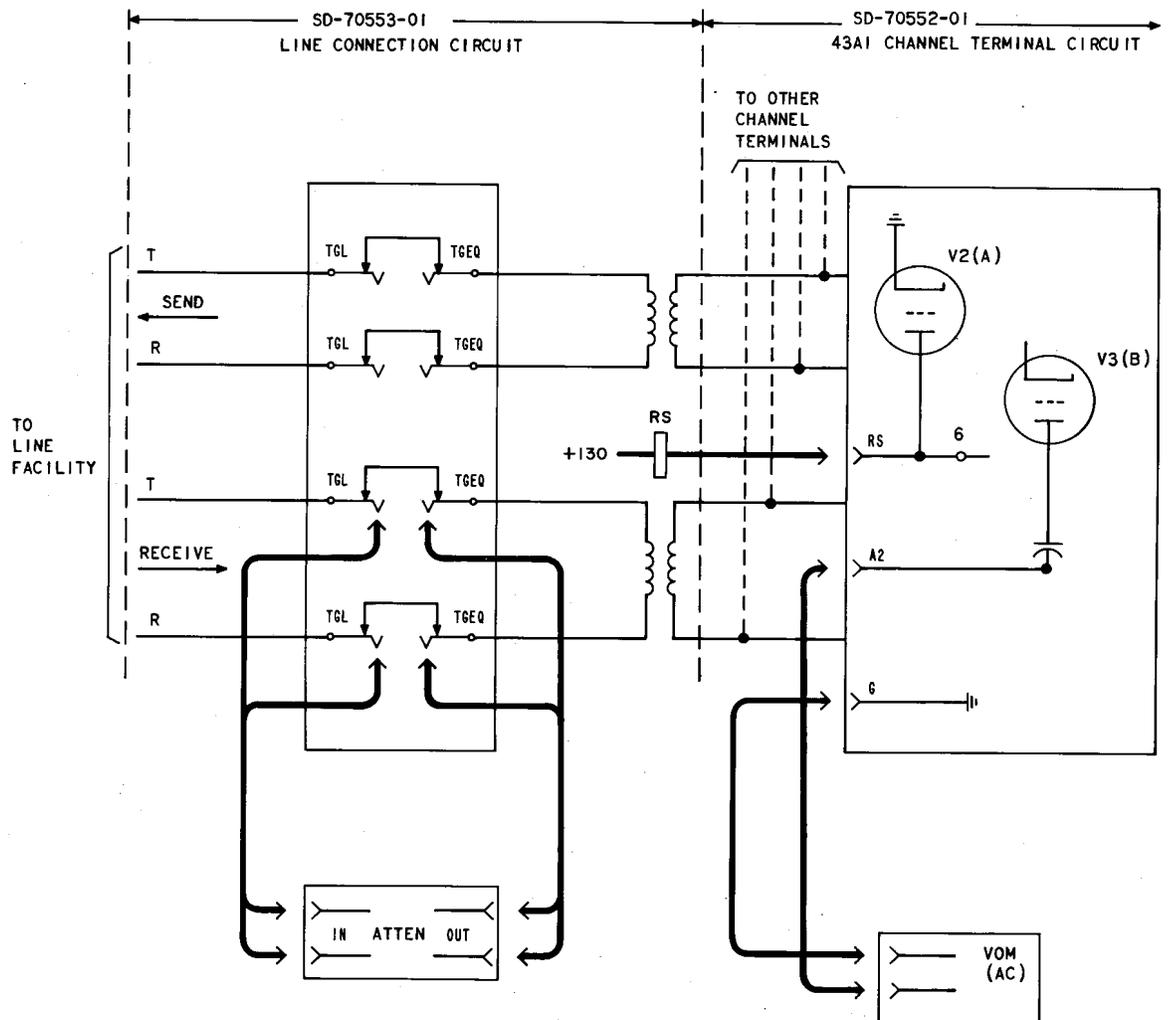

Fig. 10—Test N Connections—Supervisory Features
- 3 Connect the attenuator between the tip and ring TGL jack and the tip and ring TGEQ jacks (see Fig. 10).